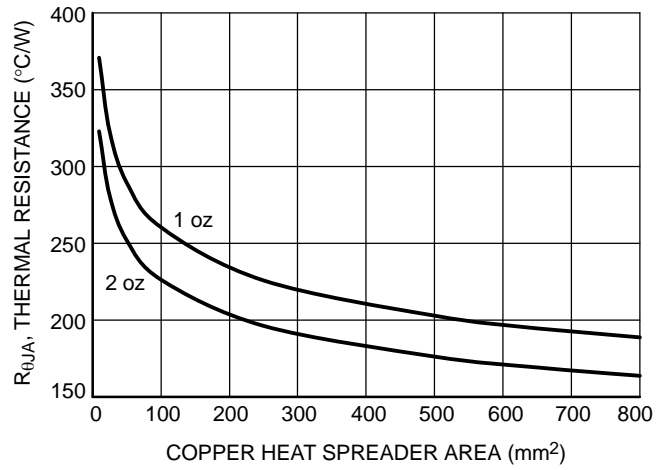

Figure 22. Thermal Resistance  $R_{\theta JA}$  vs. Copper Spreader Area
The NCV4250–2C tracking regulator is self–protected with internal thermal shutdown and internal current limit. Typical characteristics are shown in Figure 3 to Figure 22.
Since TJ is not recommended to exceed 150°C, then the NCV4250–2C soldered on 645 mm2, 1 oz copper area, FR4 can dissipate up to 0.65 W when the ambient temperature (TA) is 25°C. See Figure 22 for RthJA versus PCB area. The power dissipated by the NCV4250–2C can be calculated from the following equations: